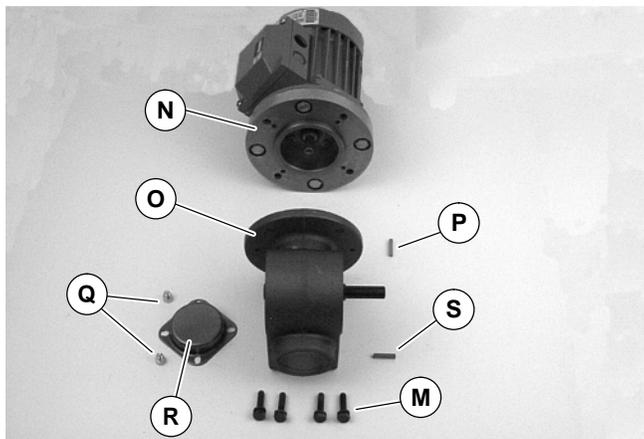

Figure 12
- Remove four screws (M of Figure 12). Detach motor (N) from gear reducer (O). Retain motor output shaft key (P).
- With key (P of Figure 12) in keyway, slide motor (N) and gear reducer (O) together. Install screws (M) and tighten.